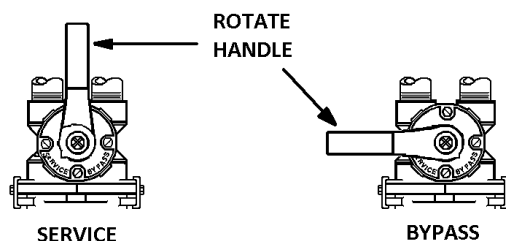

FIGURE 3: Stainless Steel Bypass Valve
- STEP 10:** Place bypass valve in the "Bypass" position (refer to Figure 3 below). Open main supply valve or turn on power to pump on private well systems.
Refer to Figure 3 (page 6) for appropriate bypass valve operation. Rotate bypass lever of stainless steel bypass $\frac{1}{4}$ of the way to "Service" allowing unit to fill slowly. You should hear water trickling into the mineral tank. Filling the media tank in this position will force any trapped air and carbon dust to the drain. **When all air has been purged from the system and only clear water is running to the drain, slowly open the bypass valve fully to the service position.**